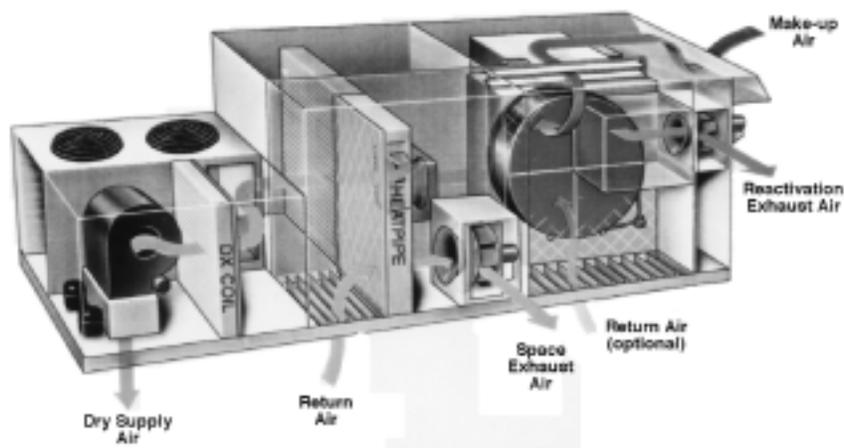

Figure 6-4. A desiccant dehumidification system. Courtesy: Munters Corporation, Cargocaire Division.
**Desiccant Dehumidifiers** - Desiccant dehumidifiers can be added to air conditioning systems that use cooling coils to remove water vapor, particularly useful when moisture loads are high compared to sensible heat loads, or when they peak at different periods (see Figure 6-4). An outdoor air temperature of 65° may be fine for comfort conditions, but it may carry too much moisture unless it is first dehumidified.
air plenum to increase its moisture content. Humidified air exits into a duct for distribution. Desiccant wheel dehumidifiers, mentioned above (see Figures 6-4 through 6-7), can also add moisture to incoming cool, dry air during winter.